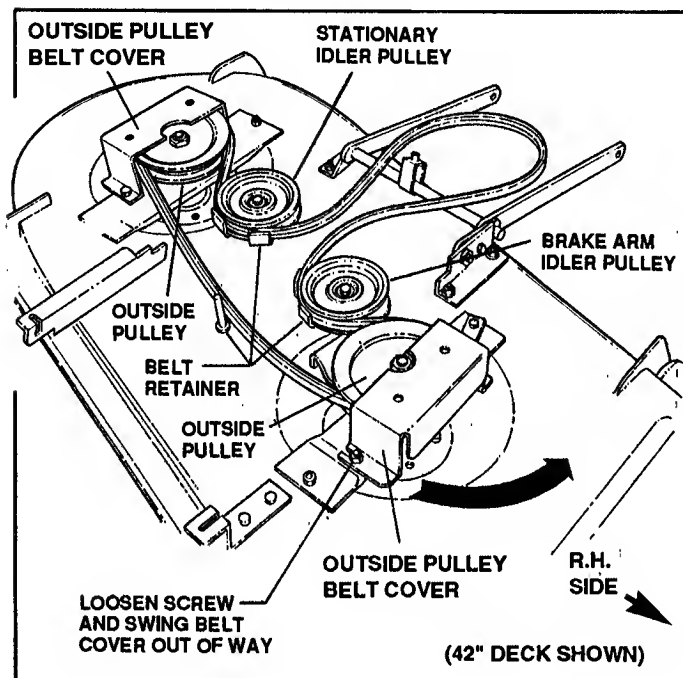

FIGURE 28
3. (42" DECKS ONLY!) Loosen retaining nut on R.H. OUTSIDE PULLEY BELT COVER and swing cover out of way. See Figure 28.